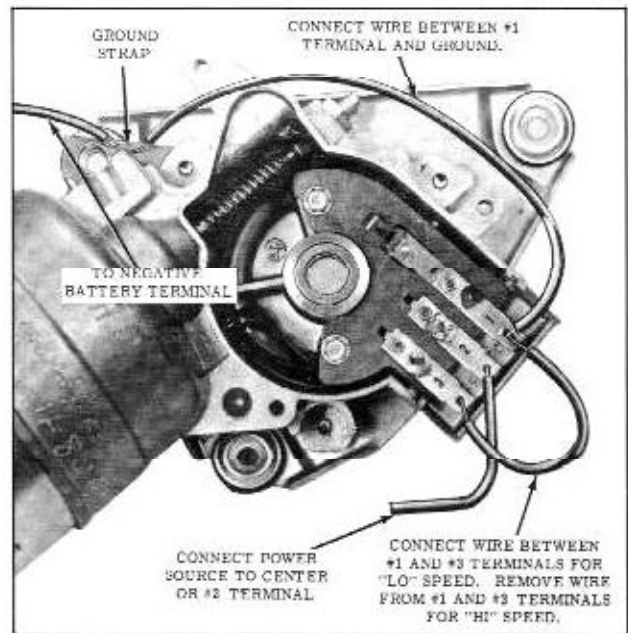

Fig. 13-131 Checking Wiper Circuit Wiring
- a. Connect a 12 volt supply to the center or number two terminal of the terminal board. (Fig. 13-131)
2. By-pass car wiring and dash switch and operate wiper as shown in Fig. 13-131.
1. By-pass car wiring and dash switch and connect wiper as shown in Fig. 13-131. This should operate wiper in "LO" speed (approximately 35-45 wipes per minute.)
1. By-pass car wiring and dash switch and connect wiper as shown in Fig. 13-131. This should operate wiper in "LO" speed. Next, disconnect jumper wire number one. This should operate wiper in "HI".
"LO" Speed - Using an ammeter in the feed wire circuit from battery connect wiper as shown in Fig. 13-131.